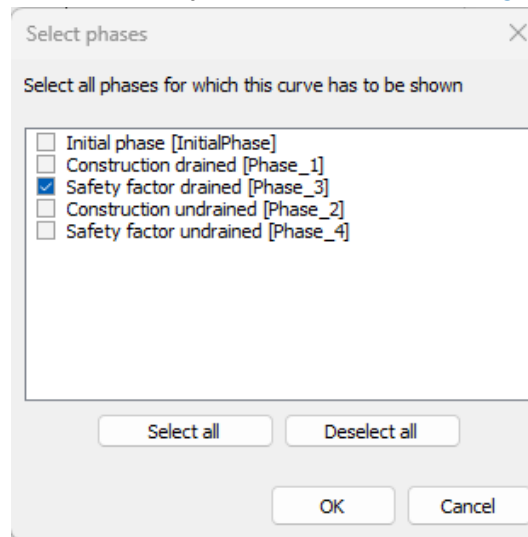

Figure 2-12: The Select phases window
8. In the **Select phases** window select only Phase 3 as shown in Figure 2-12 \(p. 50\):